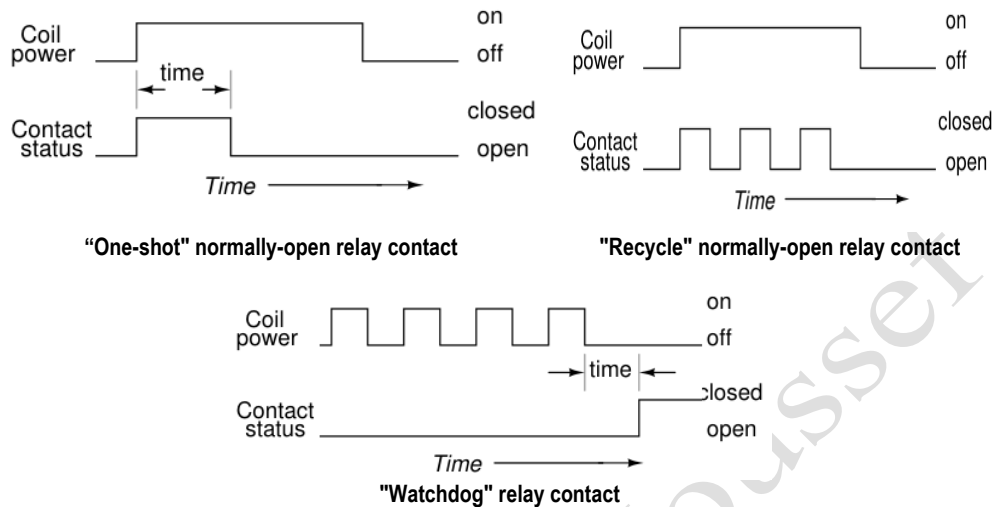

Fig.14 Electronic-timer relays
The older, mechanical time-delay relays used pneumatic dashpots or fluid-filled piston/cylinder arrangements to provide the "shock absorbing" needed to delay the motion of the armature. Newer designs of time-delay relays use electronic circuits with resistor-capacitor (RC) networks to generate a time delay, then energize a normal (instantaneous) electromechanical relay coil with the electronic circuit's output. The electronic-timer relays are more versatile than the older, mechanical models, and less prone to failure. Many models provide advanced timer features (Fig. 14) such as "one-shot" (one measured output pulse for every transition of the input from de-energized to energized), "recycle" (repeated on/off output cycles for as long as the input connection is energized) and "watchdog" (changes state if the input signal does not repeatedly cycle on and off).